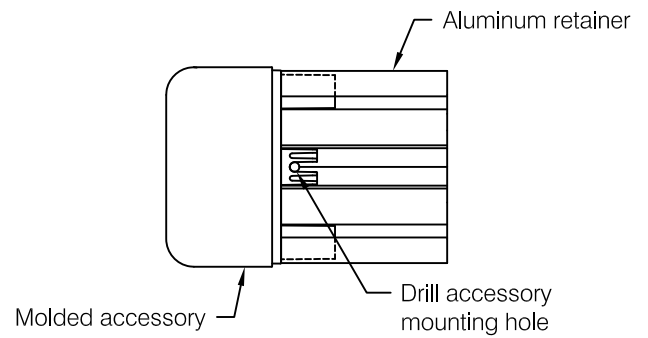

fig 4
**Step 6** Insert molded accessories into end of retainer, press firmly to ensure molded part is seated squarely against the end of the retainer. Drill accessory mounting holes using the accessory as the template, see **fig. 4**.